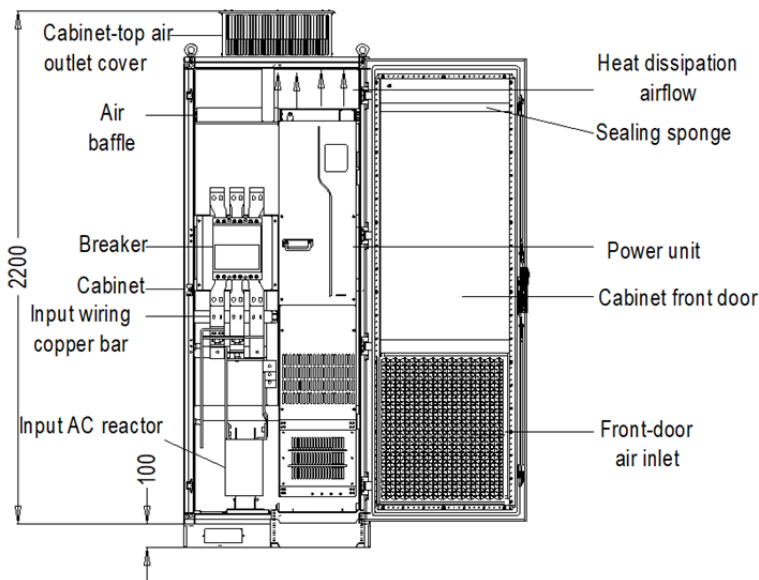

Figure 4-10 Recommended cabinet layout
- ✧ For in-cabinet mounting, see the cabinet layout diagram Figure 4-10. The cabinet frame is $2200 \times 800 \times 600$ (unit: mm, including the H200 cabinet ventilation top cover). To secure the in-cabinet mounting, you must mount the H100 cabinet base. The air baffle must be mounted at the top of cabinet to prevent the hot air in the VFD outlet from circulating within the cabinet. A 40×40 sealing sponge must be used at the position corresponding to the air baffle in the front door panel, which prevents air duct short circuit. In addition, air inlet vents must be made at the lower of the cabinet door.